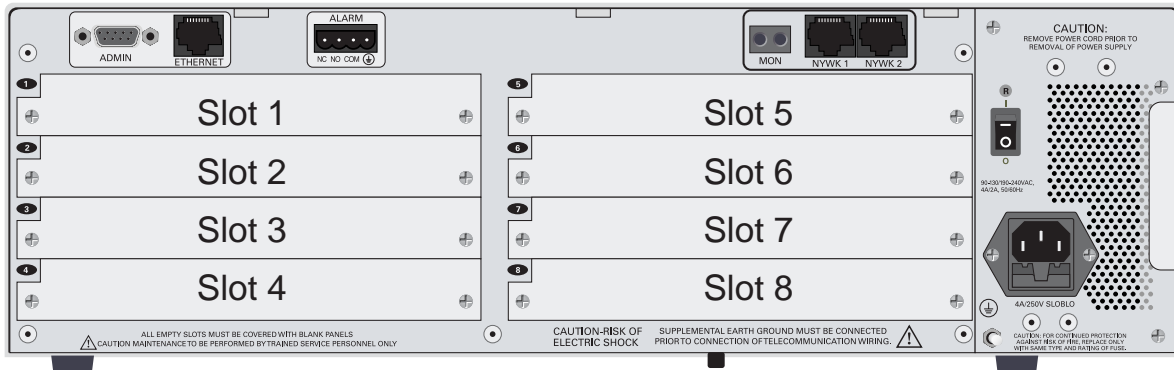
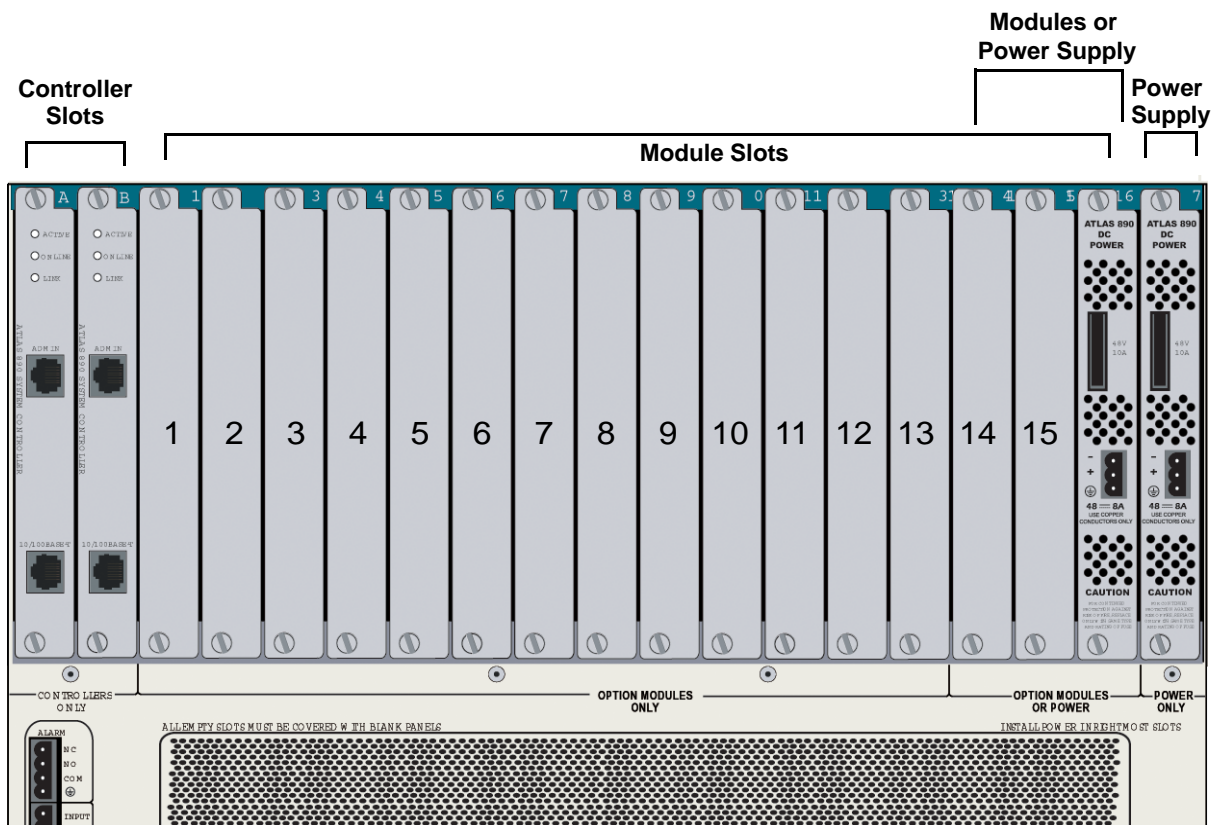

Figure 2. ATLAS 830 Slot Designation (Rear Panel)
Figure 3. ATLAS 890 Slot Designations (Rear Panel)
- Figure 2. ATLAS 830 Slot Designation (Rear Panel) 64
- Figure 3. ATLAS 890 Slot Designations (Rear Panel) 64
Figure 2 shows the option slot numbering designation for the ATLAS 830, and Figure 3 shows the option slot numbering designation for the ATLAS 890. (Slots 7 and 8 of the ATLAS 830 may also be used for an optional redundant power supply.) The two units share the same ATLAS 800 Series option module cards. However, the controller slots of the ATLAS 890 only accept ATLAS 890 controller modules. Understanding the slot numbering convention is important for successful module installation.